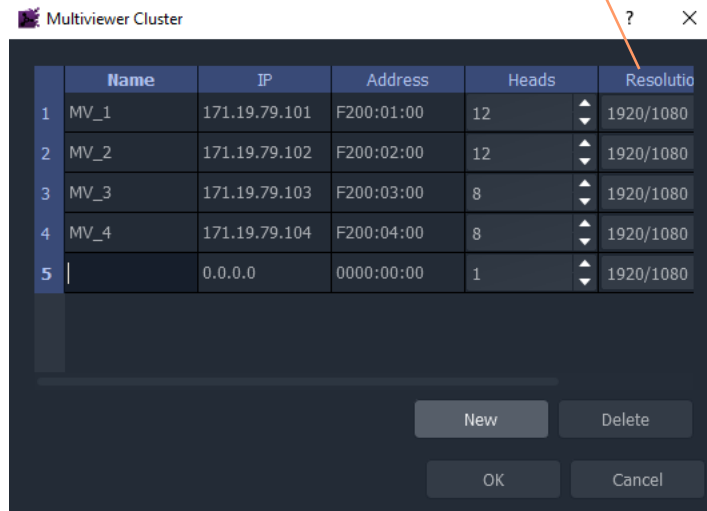

Fig. 15-23: Multiviewer Cluster Dialog- Adding New Multiviewer Device
- 1 Click **New** to add the information about each multiviewer of the cluster. See Figure 15-23.